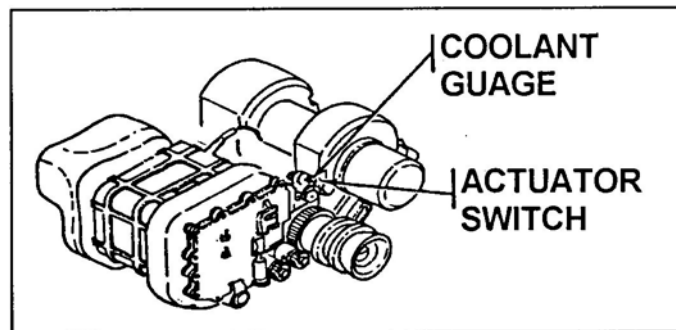

Figure 1. Coolant Gauge and Actuator Switch
- (1) Locate the actuator switch on the right side of the coolant gage. This switch has four positions (Figure 1). A decal on top of the tracker shows these positions.